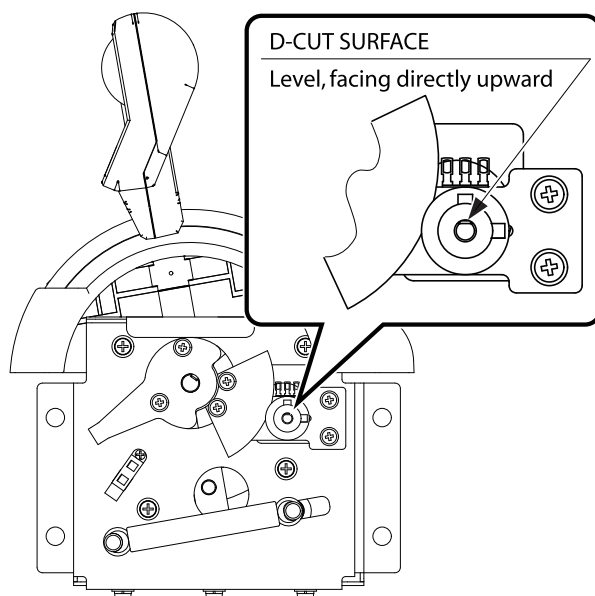

FIG. 12-2b
- 14** After passing the wire, attach the volume. While your hand is removed from the lever, align gear mesh so that the D cut surface of the volume shaft is level, facing directly upward, then fasten with 2 screws. (See FIG. 12-2b.)